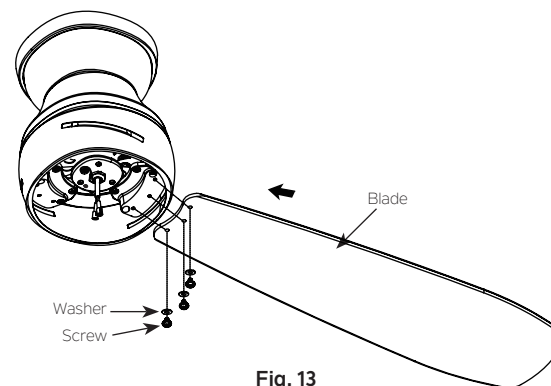

Fig. 13
Step 1. Insert the blade through the slot on the motor housing, align the holes on the blade and blade bracket, secure with the screws and washers provided. Repeat process with the other blades. (Fig. 13)